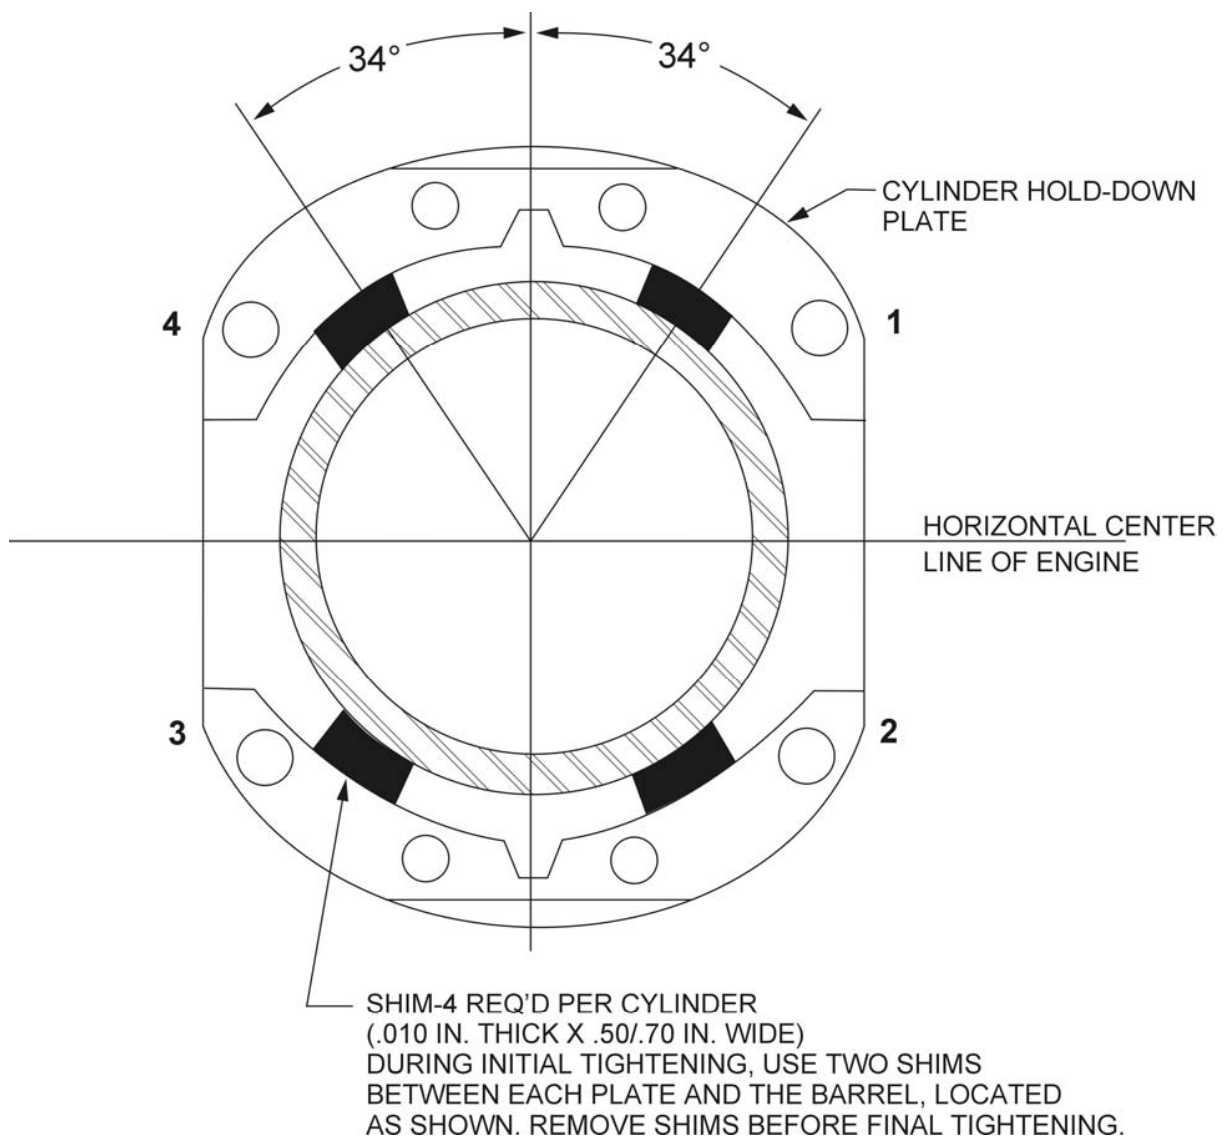

Figure 5-3. Location of Shims Between Cylinder Barrel and Hold-Down Plates (where applicable) and Sequence of Tightening Cylinder Base Hold-Down Nuts
- (a) *(Engines using hold-down plates)* – Install shims between cylinder base hold-down plates and cylinder barrel, as directed in Figure 5-3, and tighten ½ inch hold-down nuts to 300 in.-lbs. (25 ft.-lbs.) torque, using the sequence shown in Figure 5-3.